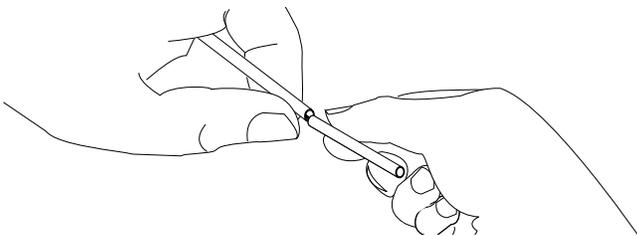

Figure 35
- d) Carefully flex the tube to break it at the score point. The break should be clean and free of rough edges (Figure 35). Carefully slide the severed section of buffer tube off of the fibers.